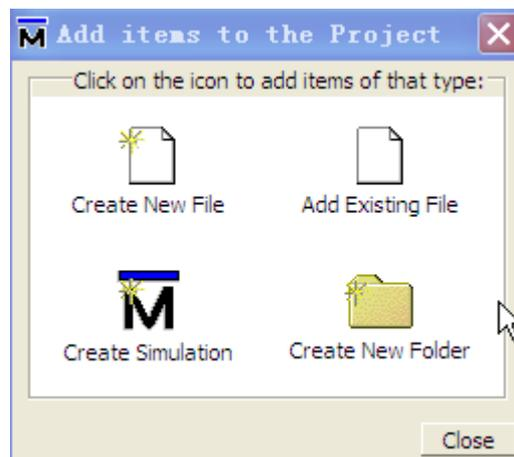
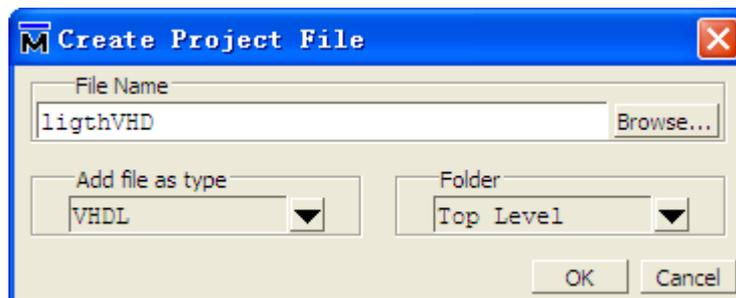

Figure 33. Add items to a Project
Figure 35.Add new files to Project
4. Once you click **OK** to accept the new project settings, a blank Project window and the **“Add items to the Project”** window will appear (Figure 33), in which you can create a new design file, add an existing file, create a simulation configuration or add a folder for organization purposes.
Either Clicking on the **Create New File** icon of Figure 33 or selecting **File >New > Project** from the menu bar can create a new file, here we choose the first method: the **Create Project File** window shown in Figure 35 will appear. Specify the file type, specify a folder to which. Here we input **lighVHD** as File Name, choose **VHDL** for Add file as type and Top Level for Folder (Folder means the path to which the file will be added and the Top Level means the project path we just set), then click OK. Click **Close** to close the **Add items to the Project** window.